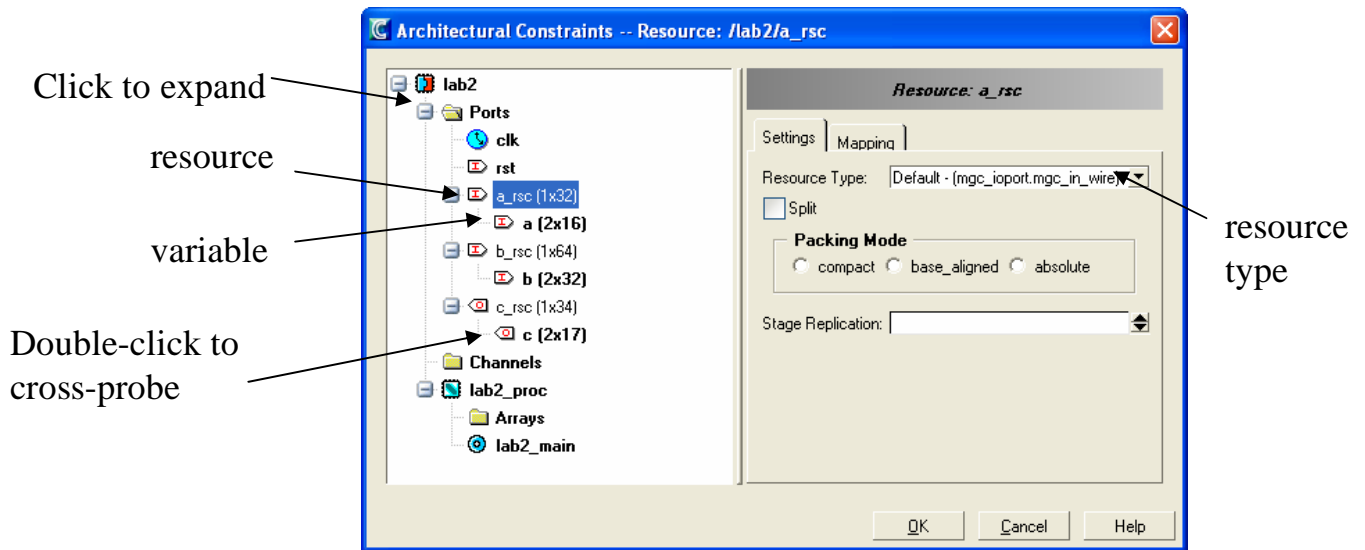

Figure 1 Architectural Constraints
- ✓ Click on the “Architectural Constraints” icon in the design bar. This will bring up a dialog, which will show you the ports and loops in your design. Expand the ports folder by clicking on the plus sign in the left pane of the dialog box (Figure 1)